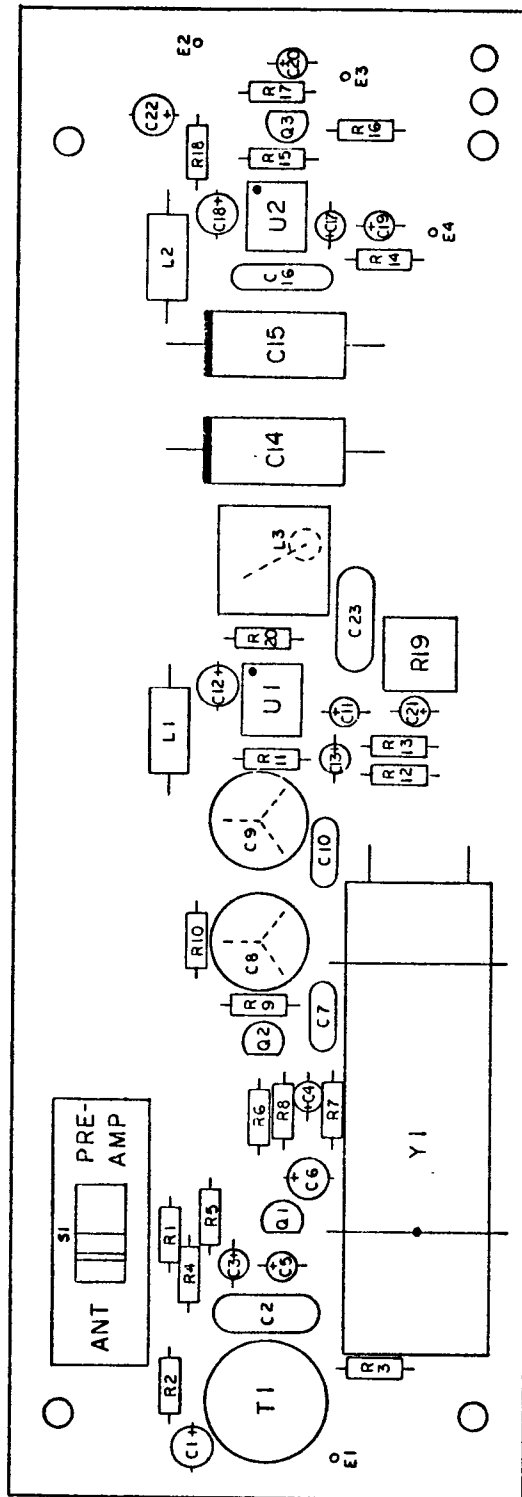

FIG. 3-2 A1 RF AMPLIFIER ASSEMBLY
3.2.1 RF Amplifier Assembly (A1 Board, Figure 3-2)